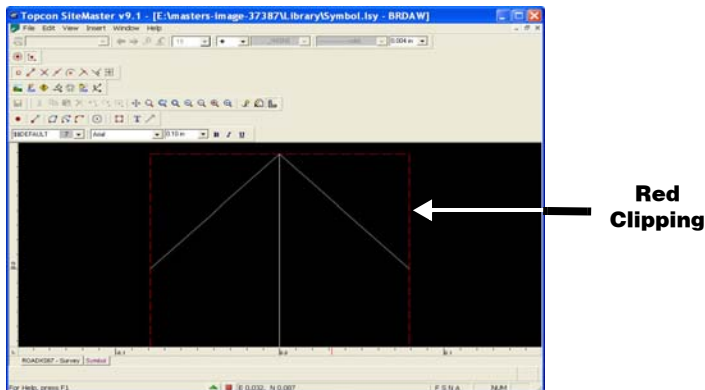

Figure 16-19. The Symbols View
2. On the *Symbols Library* dialog box, click **New** (Figure 16-19).
For field descriptions, see Table 16-8. The clipping boundary is set with a red dotted line (Figure 16-19 on page 16-30).